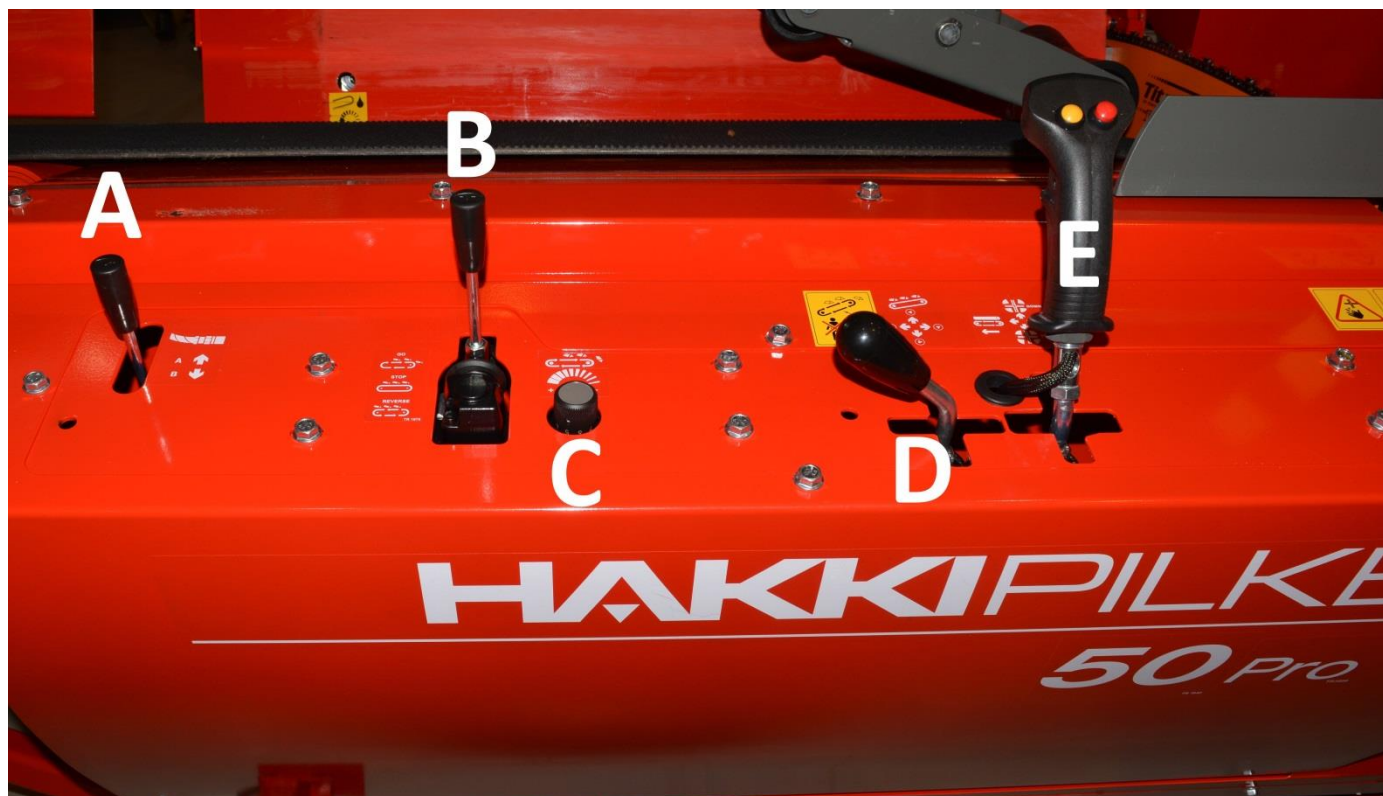

Figure 10. Controls
2. Keep locking latch A, shown in Figure 7, open and lower the out-feed conveyor hydraulically by turning lever D (in Figure 10) to the right.
2. Release lock C of the conveyor's upper section (Figure 9) and lower the conveyor to the lowest **possible** position with lever D, as shown in Figure 10.
4. Turn the conveyor to the middle position with lever D (Figure 10).
Names and functions of the controls in Figure 10
The machine's splitting blade is controlled hydraulically with control lever E (Figure 10). Pushing the lever in the front position causes the blade to be lowered, while pulling the lever to the back position causes it to rise. Logs should always be as centred as possible when passing the blade in order to keep the size of the firewood consistent.